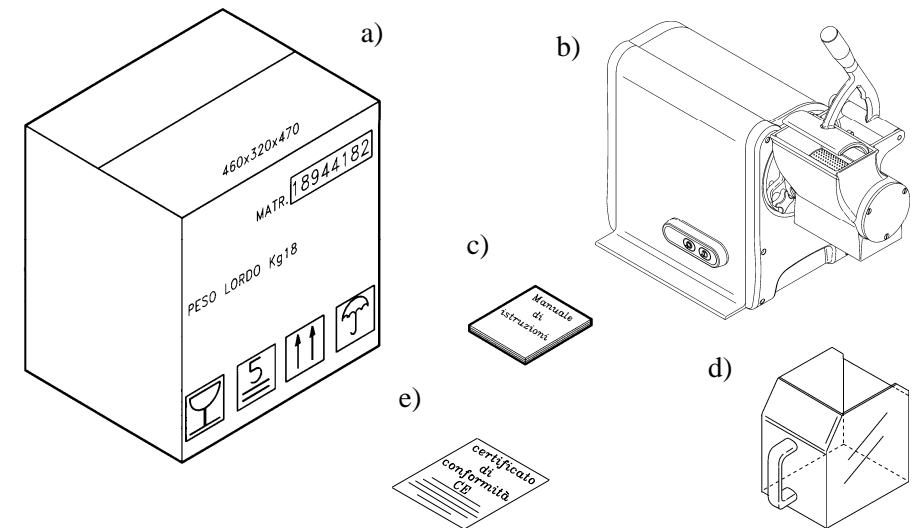

FIG. no. 3 - Package description
3.1 - SHIPPING THE MACHINE (see FIG. no. 3)
Upon receipt of the parcel, if there is no external damage, proceed with opening it, making sure that all of the material is inside (see FIG. No. 3). If, on the other hand, upon delivery of the parcel it shows signs of mistreatment, impact or being dropped, you must bring the damage to the courier's attention and, within 3 days of the date of delivery indicated on the documents, make a precise report of any damage to the machine. Do not overturn the package!! When transporting, make sure it is firmly held at the 4 fundamental points (keeping it parallel to the ground).